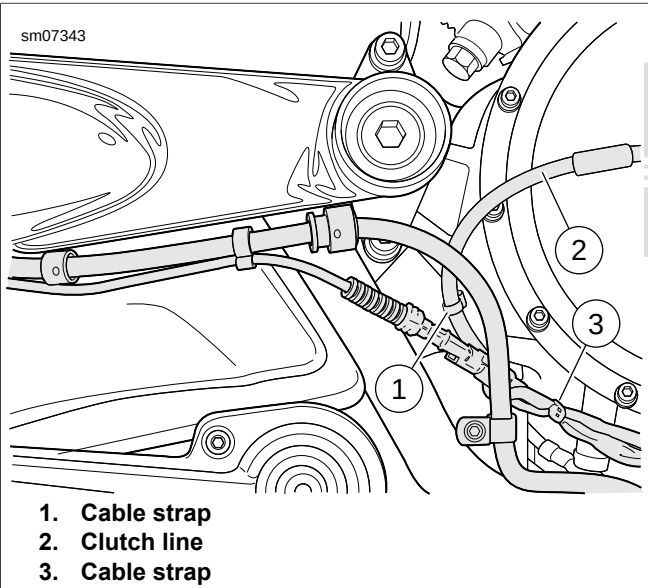

Figure 2-31. Clutch Line Cable Straps
7. See Figure 2-31. Remove cable straps (1, 3).
9. See Figure 2-31. Install cable straps (1, 3).